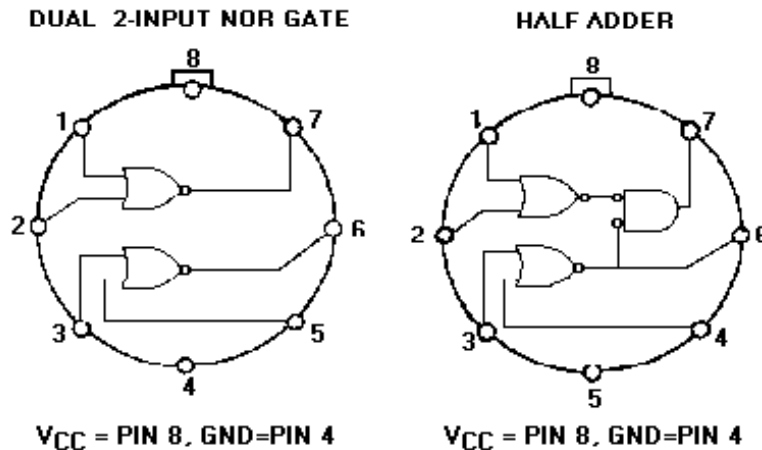

Figure 3-35. —RTL integrated circuits.
In this type of logic, inputs are applied to resistors, and the output is produced by a transistor. RTL is normally constructed from discrete components (individual resistors and transistors). Some circuits are manufactured as integrated circuits and packaged in modified transistor outline (TO) packages, as shown in figure 3-35. An in-depth coverage of circuit packaging can be found in NEETS, Module 14, *Introduction to Microelectronics*.